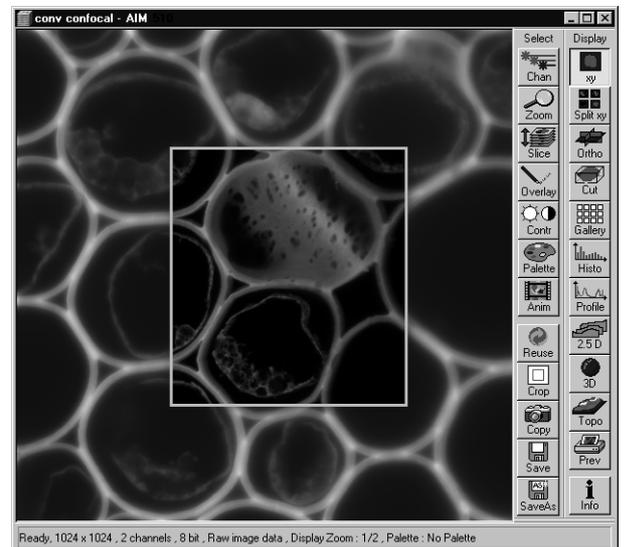

Fig. 5-276 Image Display window with confocal ROI
- The influence of the pinhole diameter on image creation is shown by the example in Fig. 5-276. The entire image was first scanned with too large a pinhole diameter. The pinhole diameter was then optimized for a defined ROI. This considerably improved the display of the specimen structures.